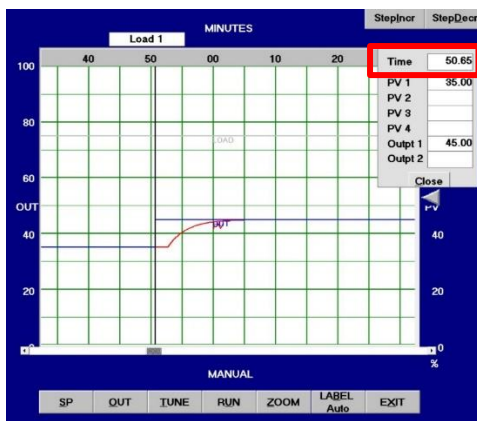
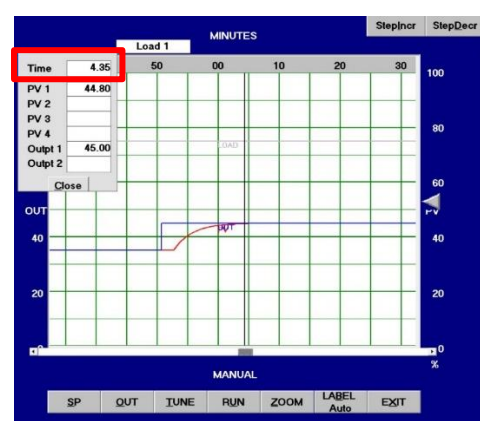

Figure 11: Start time of MV change
Figure 12: Final Value of PV change
- Process gain (K_p) = $\frac{\Delta PV}{\Delta MV} = \frac{44.80 - 35 \text{ (in fig.12)}}{45 - 35 \text{ (in fig.11)}} = 0.98$, approx. = 1 as expected in new process parameters in fig.7.